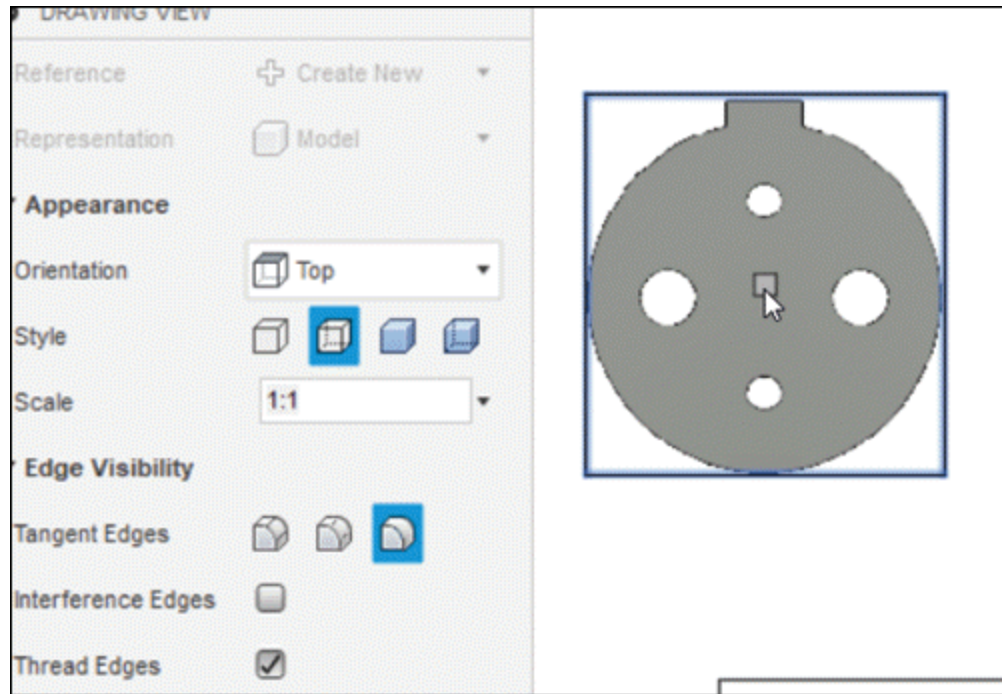

Figure-144. Placing base view
- Click at desired location to place the view; refer to Figure-144.